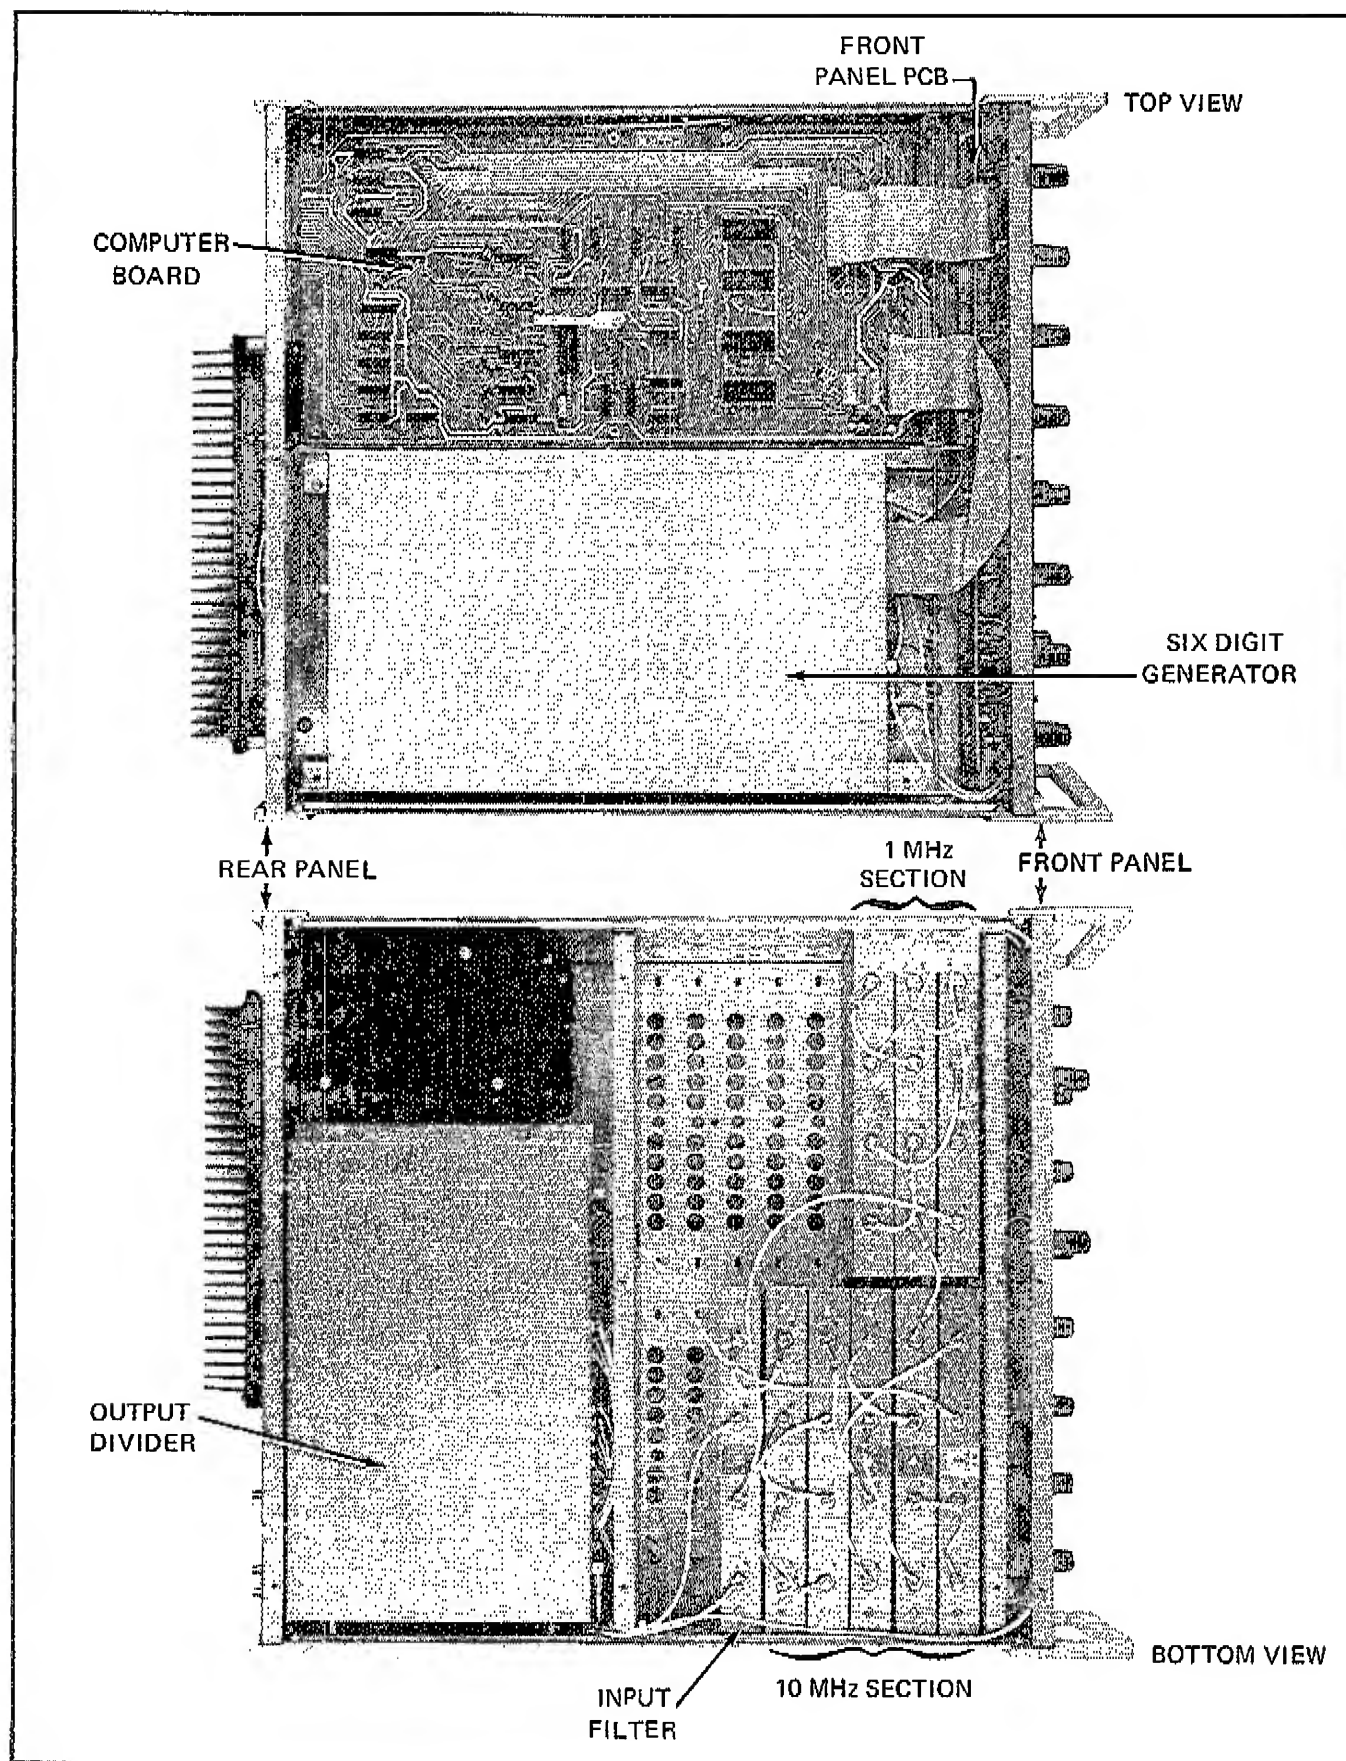

Figure 4-1. SECTION LOCATIONS
- c. Remove the top and bottom dust covers. Access is now provided to the modules shown in Figure 4-1.
- a. Gain access to pcb by removing Output Divider module, see Figure 4-1 for location.